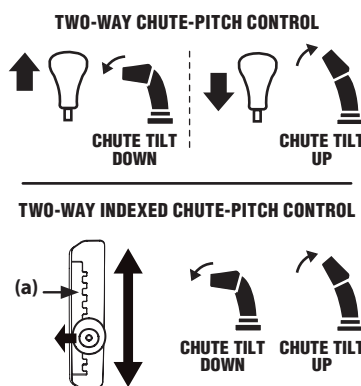

Figure 3-14
To change the upper chute angle to control the distance that snow is thrown, pivot the lever forward or backward. See Figure 3-14.
- **To Reduce the Distance Snow is Thrown:** Move the lever forward to pivot the upper chute down. See Figure 3-14.
- **To Increase the Distance Snow is Thrown:** Move the lever rearward to pivot the upper chute upward. See Figure 3-14.
- **To Reduce the Distance Snow is Thrown:** Disengage lever from the current chute-pitch setting. Move the lever forward to pivot the upper chute down to the desired pitch setting (a). See Figure 3-14.
- **To Increase the Distance Snow is Thrown:** Disengage lever from the current chute-pitch setting. Move the lever rearward to pivot the upper chute upward to the desired pitch setting (a). See Figure 3-14.